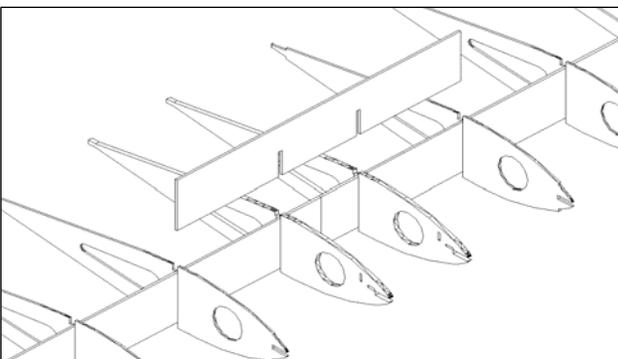

Figure 3
The top of this wing is identified by the installation of the main spar. The main spar is always installed from the TOP. (Fig. 3)
3. Join together the two wing halves with main spar (P1). (Fig. 3) The main spar should be installed on the trailing side of the spar crutch.